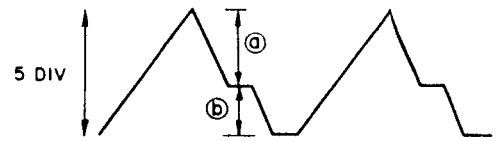

Fig. 6-10 Waveform
3. When a waveform like that shown in Fig. 6-10 is obtained, vary oscilloscope gain until a sawtooth wave with 5 div. peak-to-peak is obtained. Then, referring to Fig. 6-10, adjust VR1 until (a) to (b) equals 3 to 2. (Make sure noise does not affect adjustment.)
4. When the 33 1/3 rpm adjustment is completed, adjust VR2 using the same procedure (item 2 and 3 above) for 45 rpm. Always adjust 33 1/3 first, and always adjust 33 1/3 if 45 rpm is to be adjusted even though it might be accurate.